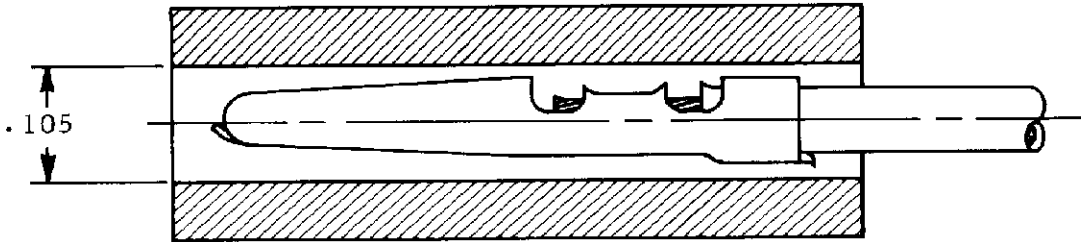

Figure 3
A. The axial concentricity of the crimped product shall fall into an area defined by a .105 diameter tube whose length exceeds the total length of the crimped contact as indicated in Figure 3.